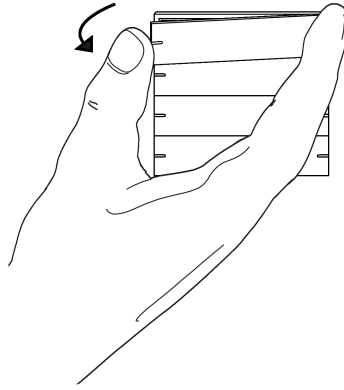

Figure 6: Removing the rocker
- Pull the rocker on one side to release it from the push-button sensor (see figure 6).